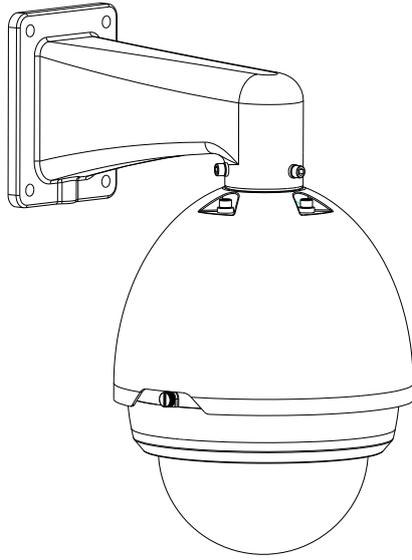

Figure 1-16
Step 8 The installation of speed dome is completed, see Figure 1-16 for more details.